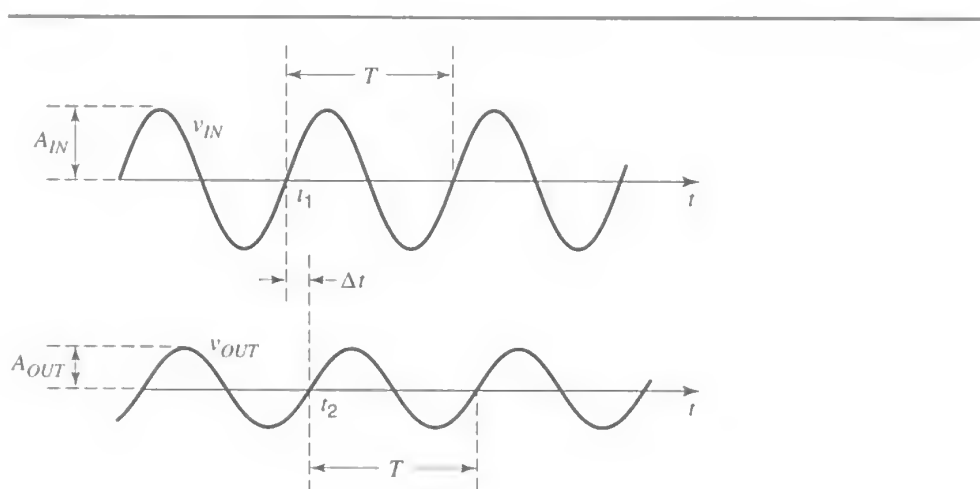

Fig. 4
Consider a linear circuit and assume that, at a given frequency, the input and output signals are as shown in Fig. 4. The amplitude of the input is  $A_{IN}$ , and that of the output is  $A_{OUT}$ . To indicate to what extent the input signal has passed to the output, we define the voltage gain magnitude,  $G$ :
In Fig. 1, because the RC circuit shows some “inertia” (it takes time for the capacitor to charge or discharge before the output can rise or fall significantly), the various features of the sinusoidal output waveform (peaks, valleys, and zero crossings) appear to occur somewhat later than the corresponding features of the input waveform. We say that the output signal is *phase-shifted* with respect to the input signal. The phase difference between the output and the input can be determined with the help of Fig. 4. With the period  $T$  corresponding to 360 degrees, the phase difference between the two waveforms will be  $[(\Delta t)/T] \times 360$  degrees, where  $\Delta t = t_2 - t_1$ , as shown in the figure. This is the phase by which the top waveform leads (is ahead of) the bottom one or, identically, the phase by which the bottom waveform lags (is behind) the top one. It is common to quote instead the phase by which the bottom waveform *leads* the top one; this is the *negative* of the above quantity and will be denoted by  $\phi$ . Thus,
1. Connect the circuit of Fig. 1, using  $R = 16 \text{ k}\Omega$  and  $C = 10 \text{ nF}$ . Set the input frequency at 1 kHz and its amplitude (peak value) at 2V. Monitor the input waveform on the scope's channel 1 and the output waveform on channel 2, with both channel inputs set at AC. Use  $\times 1$  probes. The sensitivity of the two channels (V/div) should be the same, and the variable sensitivity control for each should be in the calibrated position. The trigger source selector should be at channel 1, the trigger coupling at AC, and the trigger slope at positive. You should be able to obtain a display like that in Fig. 4. Carefully establish the 0 level for each waveform by using the ground setting for each scope input, and align this level with a main graticule horizontal line, using the vertical position control.
6. The phase shift between the output and the input,  $\phi$ , was defined under Background above. Measure this quantity, with the input frequency equal to the cutoff frequency  $f_c$  that you determined in step 3. To make this measurement easier, move one of the two waveforms vertically, so that its 0 level coincides with the 0 level of the other waveform (use the ground input mode on the scope to establish the 0 levels accurately). Then  $\Delta t$  can be easily estimated as the horizontal displacement between two zero crossings, as shown in Fig. 4.3 Is the phase shift at  $f_c$  approximately equal to the theoretically predicted value of  $-45$  degrees?